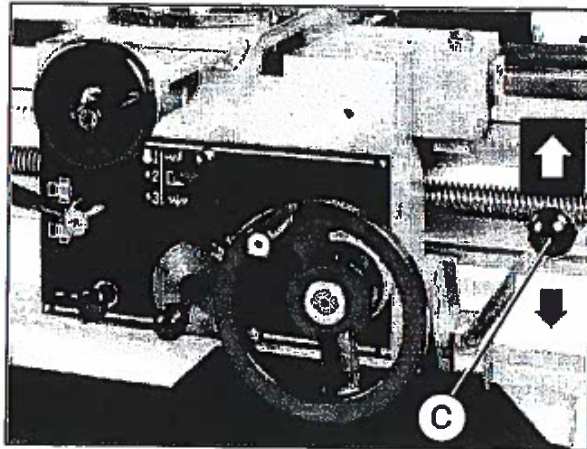

Fig. 7
To start spindle switch on the main isolator at the rear of the machine and release the emergency stop button. Drive Disable warning light (red) illuminates. Ensure that the third rod lever (C) is in the NEUTRAL (mid) position (Fig. 7) and press the drive enable button. Green light illuminates. Ensure Speed Control Knob (B) is in low (fully anticlockwise).